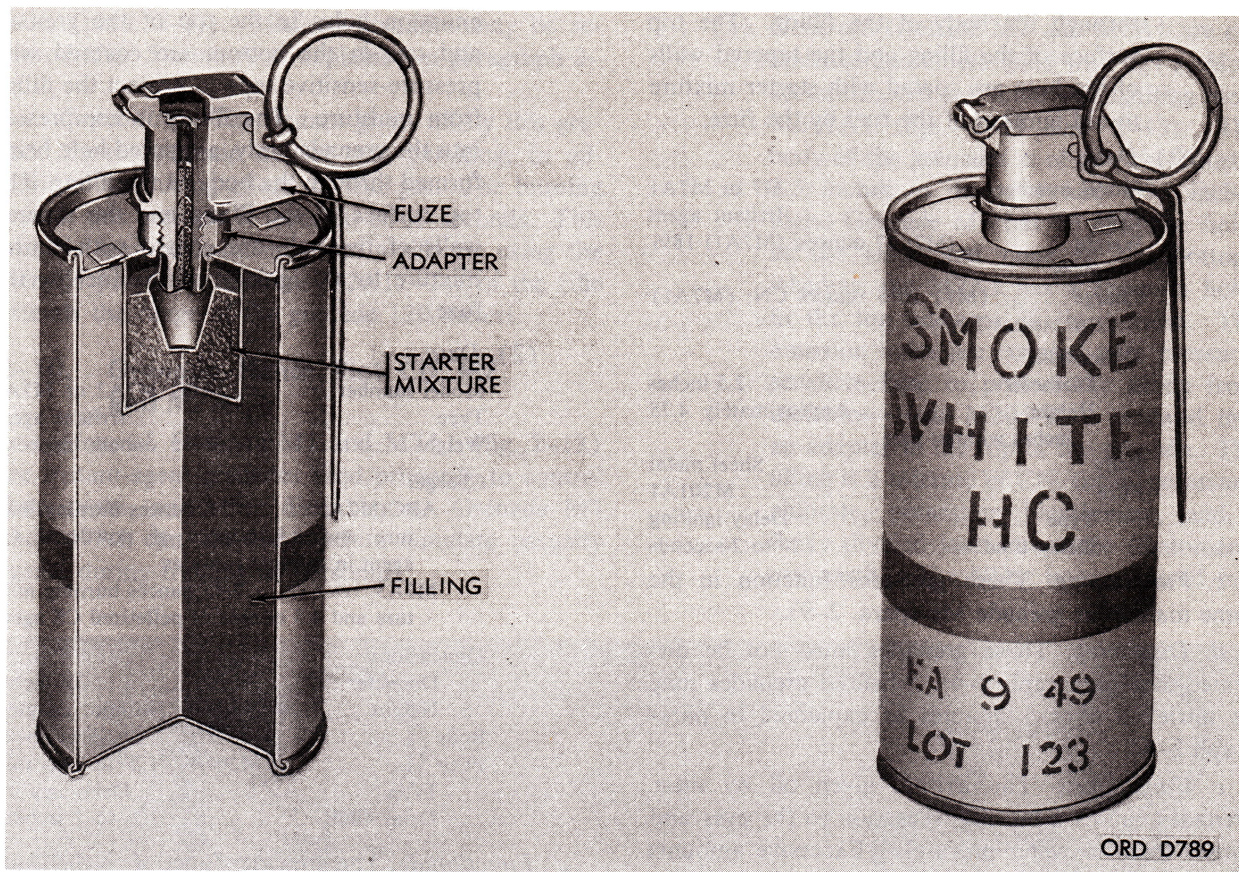

Figure 2-14. Grenade, hand: smoke, HC, AN-M8, w/ fuze, M201A1.
a. General. The smoke grenade AN-M8 (fig. 2-14) is used to generate white smoke for signaling and screening. The grenade is used for ground-to-air and ground-to-ground signaling, and for screening the activities of small units for short periods of time.